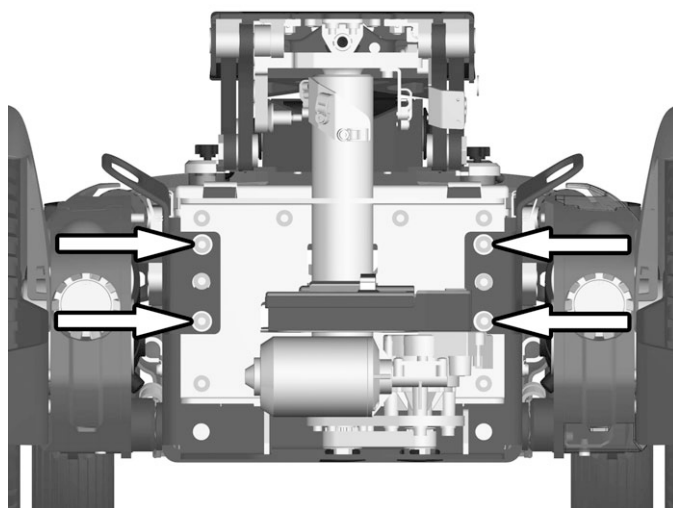

Figure 92. The front transport eyes, are attached with two screws each.
13. Remove the front transport eyes, they are attached with two screws each. See fig. 92.